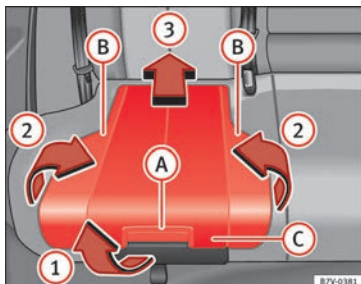

Fig. 92 Integrated child seats. lift up the cushion
- Pull the unlock lever **»» Fig. 92 (A)** on the cushion in the direction of the arrow **»» Fig. 92 (1)**.
- Fold both sides **»» Fig. 92 (B)** up in the direction of the arrow **»» Fig. 92 (2)**.
- Push the cushion **»» Fig. 92 (C)** back in the direction of the arrow **»» Fig. 92 (3)** until it engages.